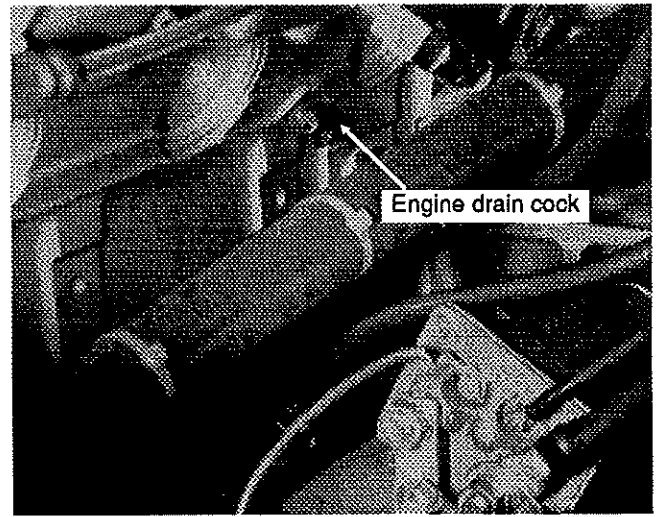

Fig. 5
4. Open both engine side drain cocks (see fig. 5 and 6).